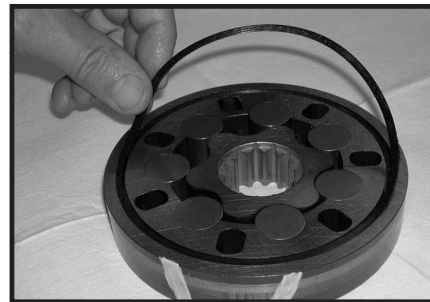

Figure 44
Apply a small amount of clean grease to a new seal ring (4) and assemble it into the seal ring groove on the wear plate side of the rotor set stator (8B). SEE FIGURE 44.